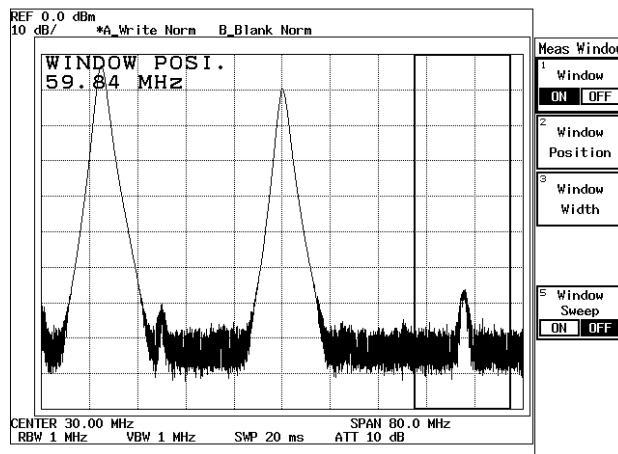

Figure 2-31 The Measuring Window
13. Press **Window position** and move the measuring window by turning the data knob until the right-hand peak is in the center of the measuring window (See Figure 2-31).